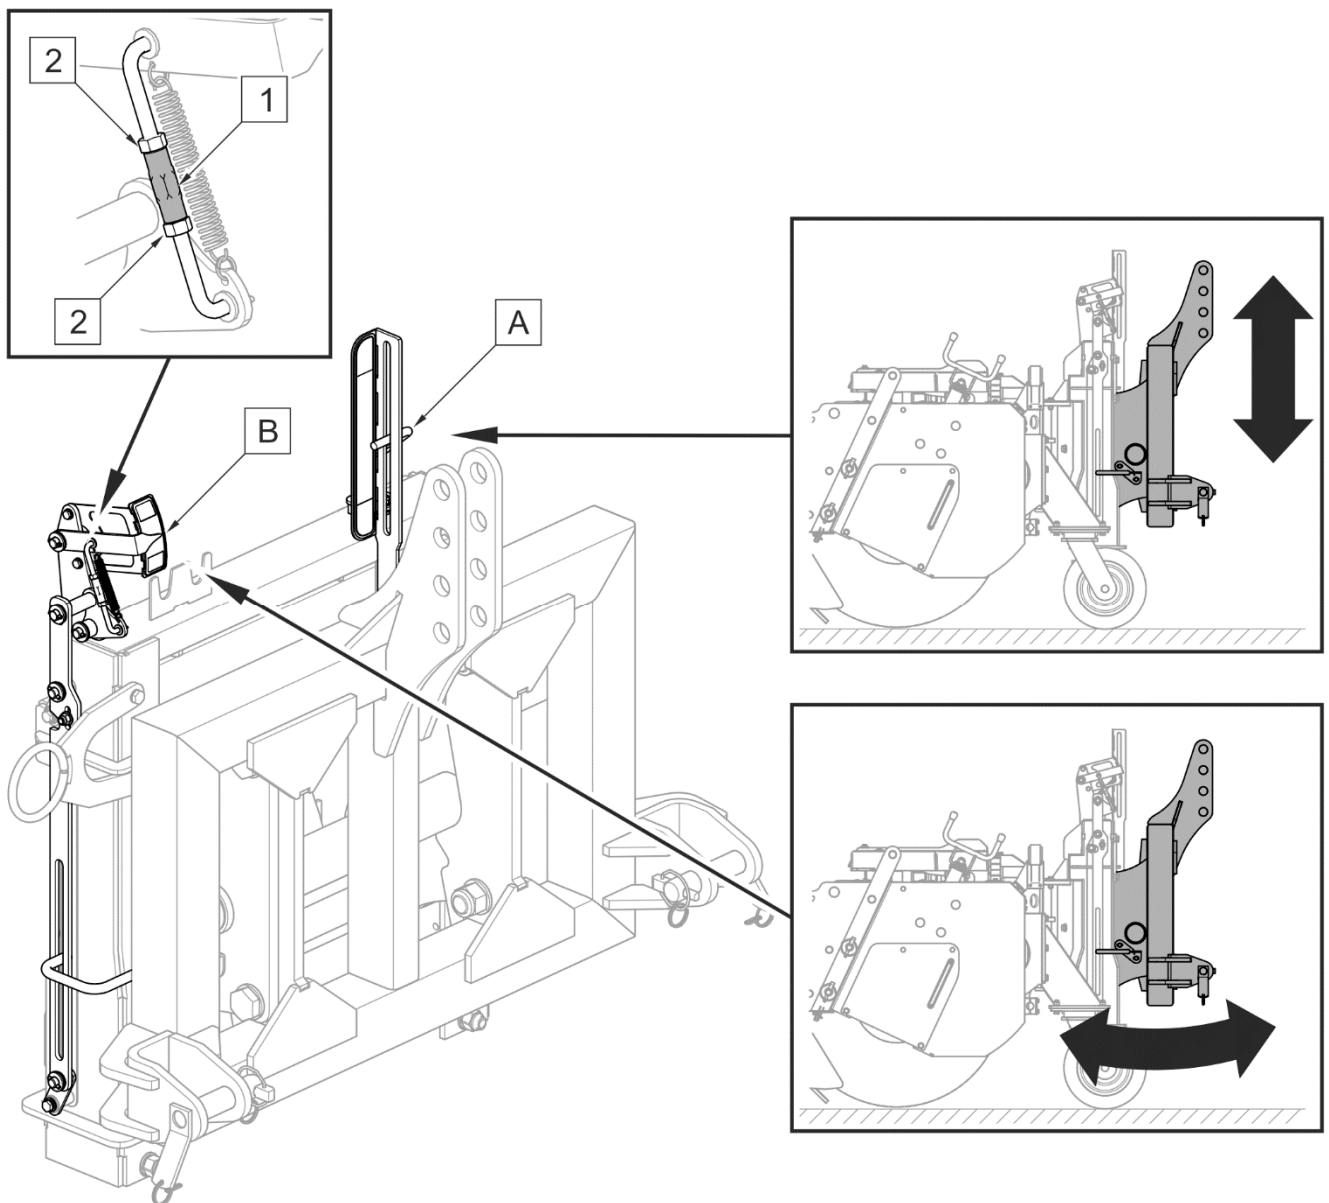

FIGURE 4.6 Height and tilt indicator
Special design of the linkage enables ground surface tracking during sweeper operation. To enable ground surface tracking, set the carrying vehicle's linkage properly with regard to the machine (FIGURE 4.6). The sweeper's linkage should ensure the possibility of up-down movement and right-left movement with regard to the sweeper and should be set vertically in such a manner as to ensure the possibility of forward-backward tilt of the machine. To facilitate proper setting, linkage height indicator (A) and linkage tilt indicator (B) are used. The tilt indicator (B) should indicate the centre of the range (green colour) when the linkage is in the top position. Otherwise, loosen counter nuts (2) and adjust indicator (B) using nut (1).
During machine operation, both indicators (FIGURE 4.6) should be in the green colour field. Red colour indicates the end of the ground surface tracking range. To change the position of the height indicator (A), delicately raise or lower the carrying vehicle's linkage. To change the position of the indicator (B), tilt the linkage forwards or backwards. This is done by adjusting the length of the central link of the three point linkage in the tractor or by tilting the implement mounting frame in the carrying vehicle equipped with extension arm (e.g. loader arm).
- Dismount the interlocks from the storage place (A). Keep fixing bolts and washers for further use.
- Raise the linkage in such a manner as to ensure that the height indicator (FIGURE 4.6) is located at the bottom of the range and protect the linkage against accidental lowering (e.g. using suitable and stable supports).
- Install interlocks (B) in the right and left guides on the sweeper side.